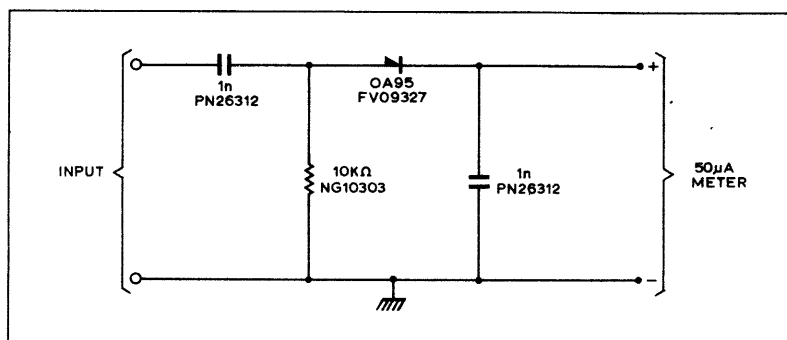

Fig.4 Diode Probe
2. H.F. Valve Voltmeter, or a Diode Probe (Fig.4, used with an AVO 8 or Pye Test Meter, type TM1). (See Fig.10).